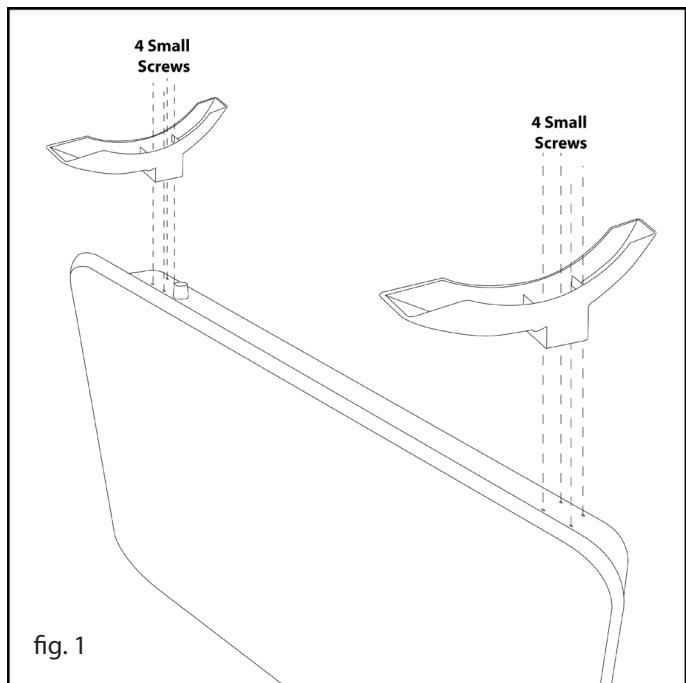

fig. 1
- To install with feet, follow the steps in figure 1, using the small screws provided.